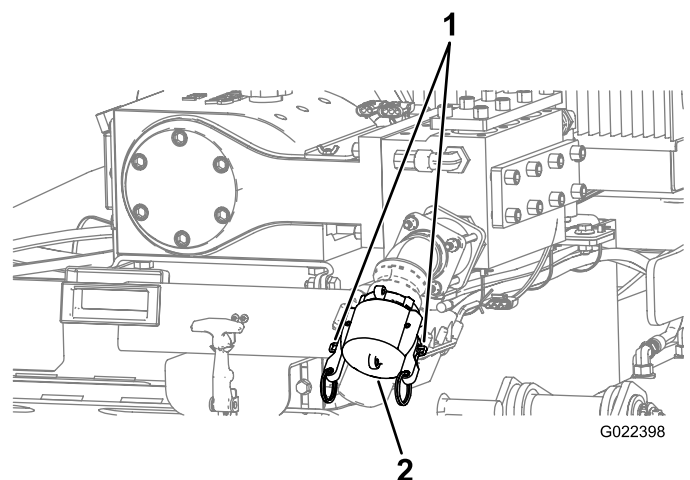

Figure 83
1. Raise the cam-lock levers on the pump-inlet cap and remove the cap (Figure 83).